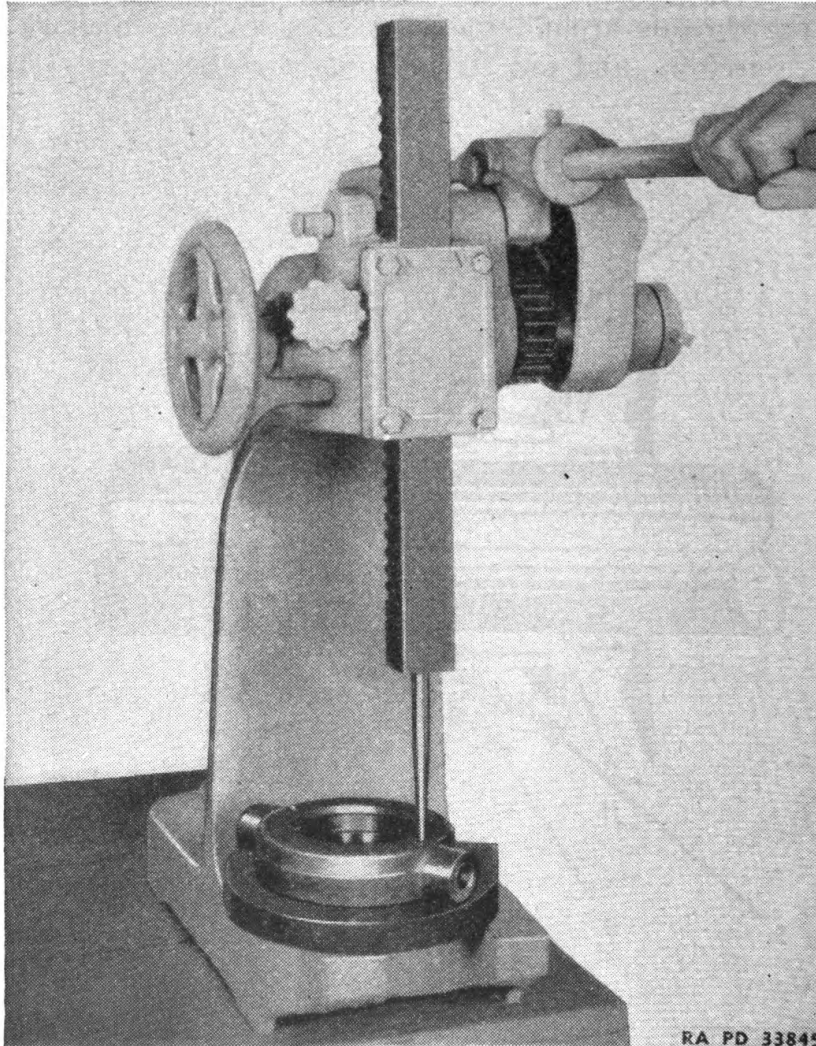

FIGURE 129.—Release bearing removal.
(2) Two $\frac{3}{8}$ -inch holes (fig. 129) are provided in the steering clutch release bearing cage to facilitate removal of the release bearing.